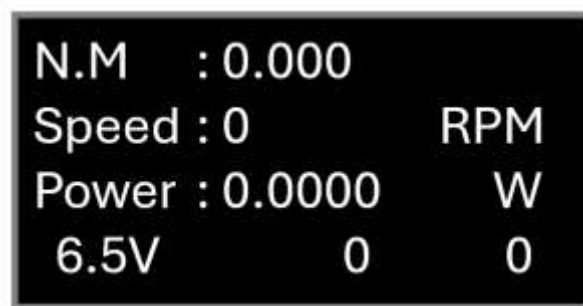

Figure 10-3 Torque Sensor with LCD display
- Move the torque sensor to read 0.000 (or close too zero) figure 10-3.